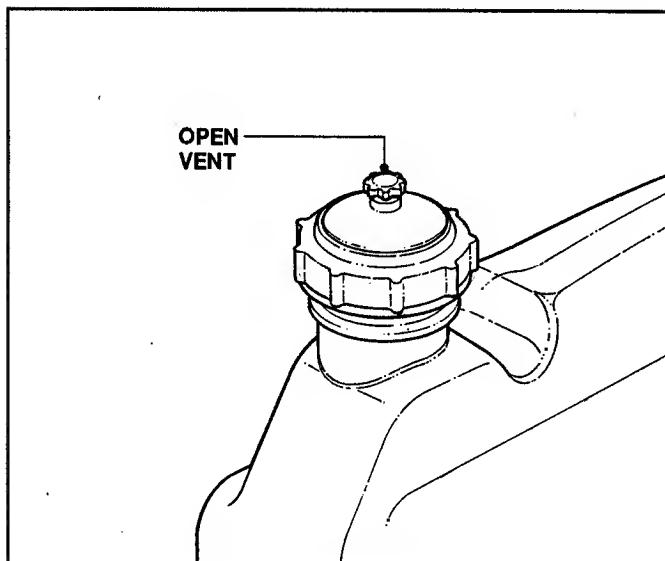

FIGURE 2.9
4. Open vent on fuel filler cap. See Figure 2.9.